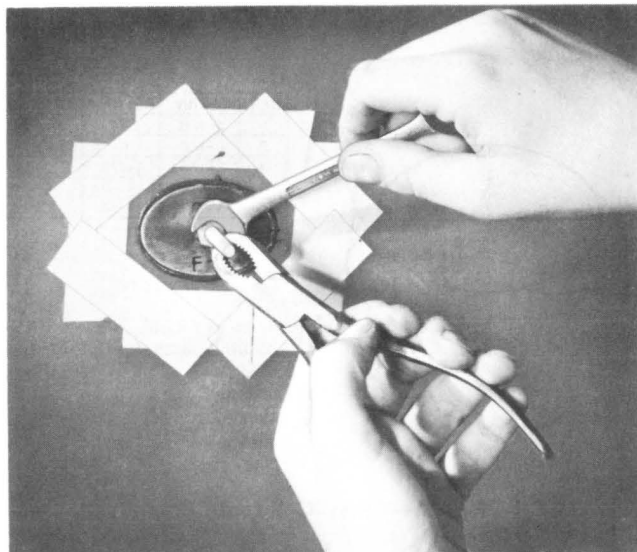

Fig. 10—Tightening Nut to Complete Assembly
4.25 Apply a narrow band of adhesive around the screw hole in the outer patch and then thread the plastic nut onto the screw. Hold the threaded end of the screw securely with a pair of gas or slip-joint pliers and tighten the nut with a wrench. (See (Fig. 10.)